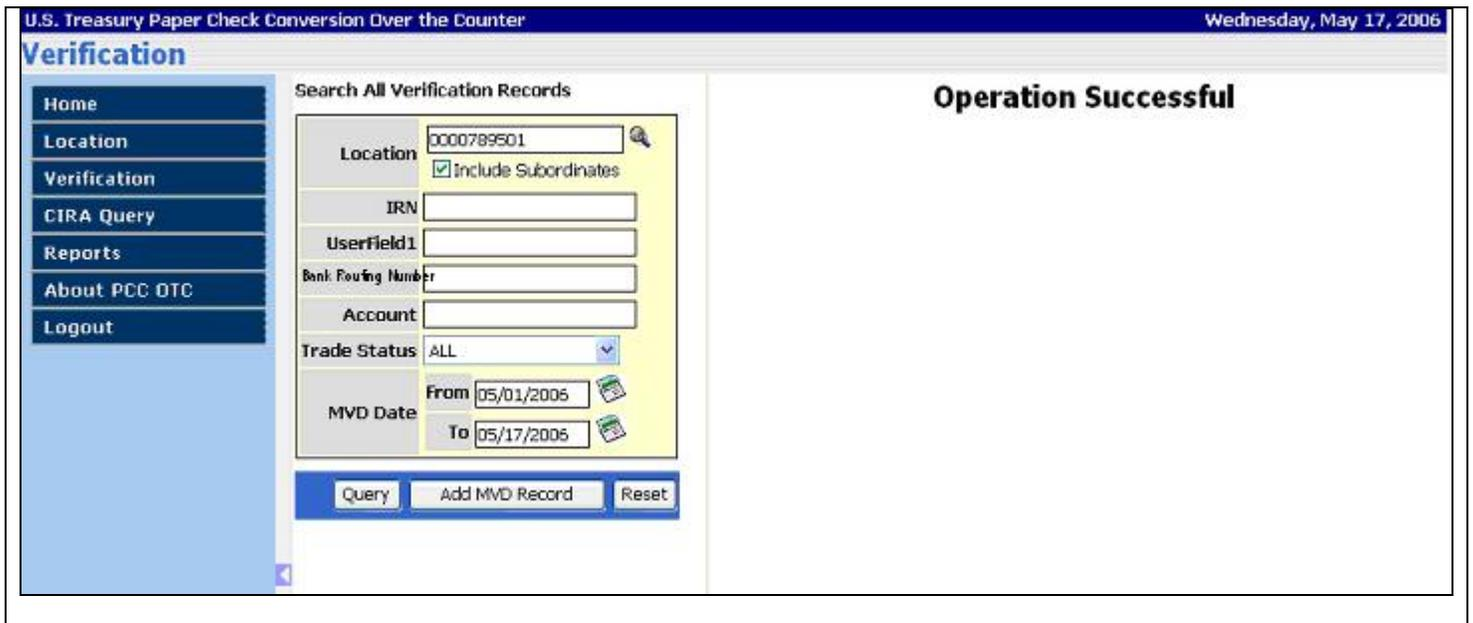

Figure 5.27
9. When complete, click '**Confirm**'. The following screen will appear (Figure 5.27) confirming that the operation was successful.